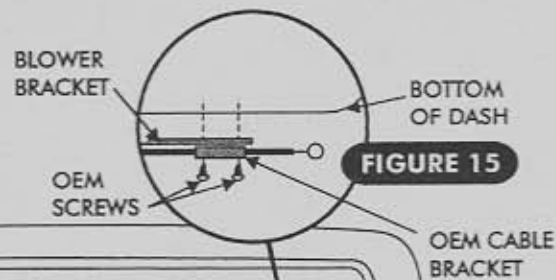

FIGURE 15
- ATTACH BLOWER BRACKET TO UNDERDASH BETWEEN THE FRESH AIR CABLE BRACKET AND THE DASH USING OEM HOLES AND OEM HARDWARE. SEE FIGURE 15, PG. 7.